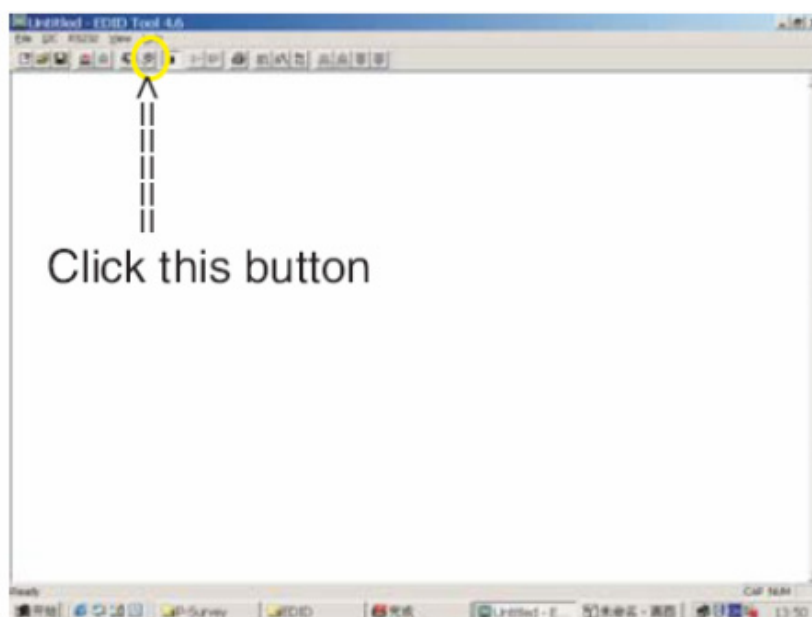

Fig. 28
1. Click icon as shown in Fig. 11 from the tool bar to bring up the Channels "Configuration Setup" windows as shown in Fig. 28.